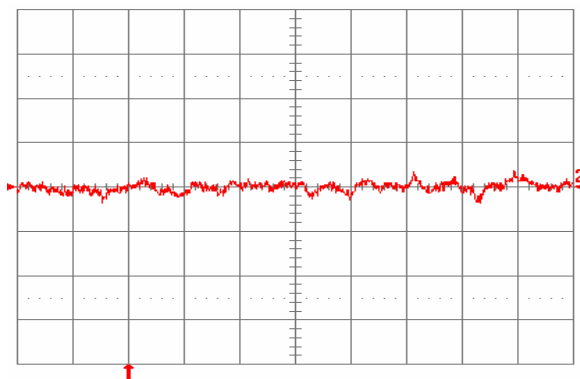

**Fig. 2.0V.14:** Test Setup for measuring input reflected ripple currents,  $i_c$  and  $i_s$ .
**Fig. 2.0V.1:** Available load current vs. ambient air temperature and airflow rates for SQ48T15020 converter with D height pins mounted vertically with  $V_{in} = 48\text{ V}$ , air flowing from pin 3 to pin 1, and maximum FET temperature  $\leq 120^\circ\text{C}$ .
**Fig. 2.0V.2:** Available load current vs. ambient air temperature and airflow rates for SQ48T15020 converter with D height pins mounted horizontally with  $V_{in} = 48\text{ V}$ , air flowing from pin 3 to pin 1, and maximum FET temperature  $\leq 120^\circ\text{C}$ .
**Fig. 2.0V.3:** Available load current vs. ambient air temperature and airflow rates for SQ48S15020 converter mounted vertically with  $V_{in} = 48$  V, air flowing from pin 3 to pin 1, and maximum FET temperature  $\leq 120$  °C.
**Fig. 2.0V.4:** Available load current vs. ambient air temperature and airflow rates for SQ48S15020 converter mounted horizontally with  $V_{in} = 48$  V, air flowing from pin 3 to pin 1, and maximum FET temperature  $\leq 120$  °C.
**Fig. 2.0V.5:** Efficiency vs. load current and input voltage for SQ48T/S15020 converter mounted vertically with air flowing from pin 3 to pin 1 at a rate of 300 LFM (1.5 m/s) and  $T_a = 25$  °C.
**Fig. 2.0V.6:** Efficiency vs. load current and ambient temperature for SQ48T/S15020 converter mounted vertically with  $V_{in} = 48$  V and air flowing from pin 3 to pin 1 at a rate of 200 LFM (1.0 m/s).
**Fig. 2.0V.7:** Power dissipation vs. load current and input voltage for SQ48T/S15020 converter mounted vertically with air flowing from pin 3 to pin 1 at a rate of 300 LFM (1.5 m/s) and  $T_a = 25^\circ\text{C}$ .
**Fig. 2.0V.8:** Power dissipation vs. load current and ambient temperature for SQ48T/S15020 converter mounted vertically with  $V_{in} = 48\text{ V}$  and air flowing from pin 3 to pin 1 at a rate of 200 LFM (1.0 m/s).
**Fig. 2.0V.9:** Turn-on transient at full rated load current (resistive) with no output capacitor at  $V_{in} = 48\text{ V}$ , triggered via ON/OFF pin. Top trace: ON/OFF signal (5 V/div.). Bottom trace: output voltage (1 V/div.). Time scale: 2 ms/div.
**Fig. 2.0V.10:** Turn-on transient at full rated load current (resistive) plus 10,000  $\mu\text{F}$  at  $V_{in} = 48\text{ V}$ , triggered via ON/OFF pin. Top trace: ON/OFF signal (5 V/div.). Bottom trace: output voltage (1 V/div.). Time scale: 2 ms/div.
**Fig. 2.0V.11:** Output voltage response to load current step-change (3.75 A – 7.5 A – 3.75 A) at  $V_{in} = 48$  V. Top trace: output voltage (100 mV/div.). Bottom trace: load current (5 A/div.). Current slew rate: 0.1 A/μs.  $C_o = 1$  μF ceramic. Time scale: 0.2 ms/div.
**Fig. 2.0V.12:** Output voltage response to load current step-change (3.75 A – 7.5 A – 3.75 A) at  $V_{in} = 48$  V. Top trace: output voltage (100 mV/div.). Bottom trace: load current (5 A/div.). Current slew rate: 5 A/μs.  $C_o = 450$  μF tantalum + 1 μF ceramic. Time scale: 0.2 ms/div.
**Fig. 2.0V.13:** Output voltage ripple (20 mV/div.) at full rated load current into a resistive load with  $C_o = 10$  μF tantalum + 1 μF ceramic and  $V_{in} = 48$  V. Time scale: 1 μs/div.
**Fig. 2.0V.15:** Input reflected ripple current,  $i_c$  (100 mA/div.), measured at input terminals at full rated load current and  $V_{in} = 48$  V. Refer to Fig. 2.0V.14 for test setup. Time scale: 1  $\mu$ s/div.
**Fig. 2.0V.16:** Input reflected ripple current,  $i_s$  (10 mA/div.), measured through 10  $\mu$ H at the source at full rated load current and  $V_{in} = 48$  V. Refer to Fig. 2.0V.14 for test setup. Time scale: 1  $\mu$ s/div.
**Fig. 2.0V.17:** Output voltage vs. load current showing current limit point and converter shutdown point. Input voltage has almost no effect on current limit characteristic.
**Fig. 2.0V.18:** Load current (top trace, 20 A/div., 20 ms/div.) into a 10 m $\Omega$  short circuit during restart, at  $V_{in} = 48$  V. Bottom trace (20 A/div., 1 ms/div.) is an expansion of the on-time portion of the top trace.